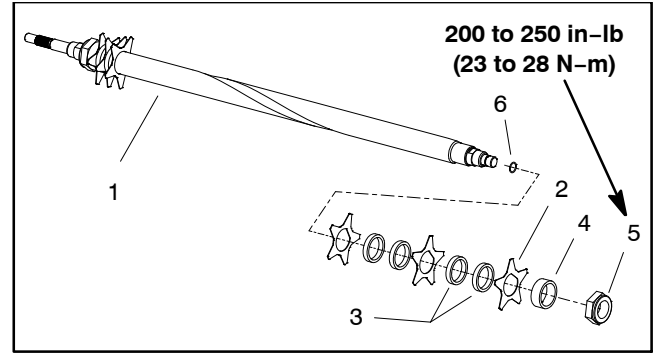

Figure 15
Disassembly (Fig. 15)
2. Remove lock nut from either end of the shaft (Fig. 15).
Assembly (Fig. 15)
1. Start by placing thick spacer against the lock nut installed on one end of groomer shaft. Then, place first blade against installed spacer (Fig. 15).
2. For 1/2 inch (1.3 cm) blade spacing, make sure there are two (2) blade spacers between blades (Fig. 15).